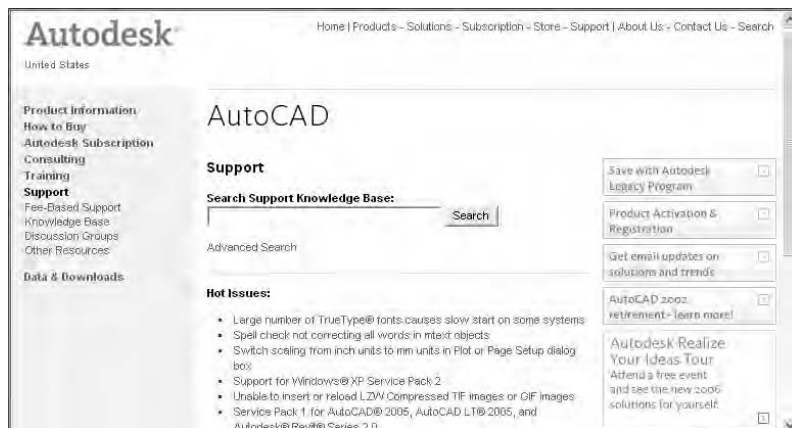

FIGURE BC.4: The Support page of the Autodesk.com website
- Clicking Support Knowledge Base takes you to the Support page of the Autodesk.com website (see Figure BC.4).